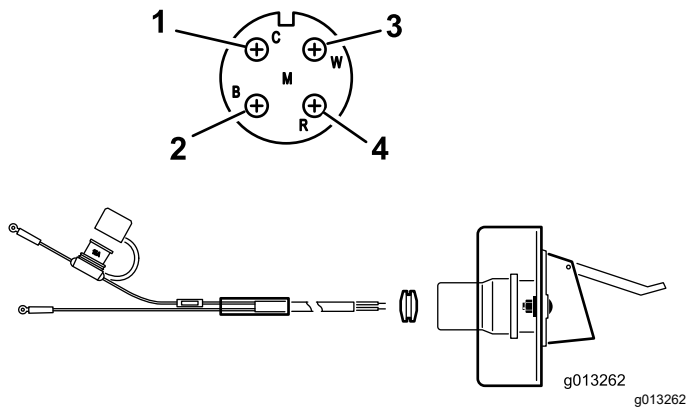

Figure 11
2. Route and secure the electrical wiring from the battery to the electrical plug bracket (Figure 11).
3. Feed the wiring through the socket bracket and install the black rubber grommet over the wiring (Figure 11).